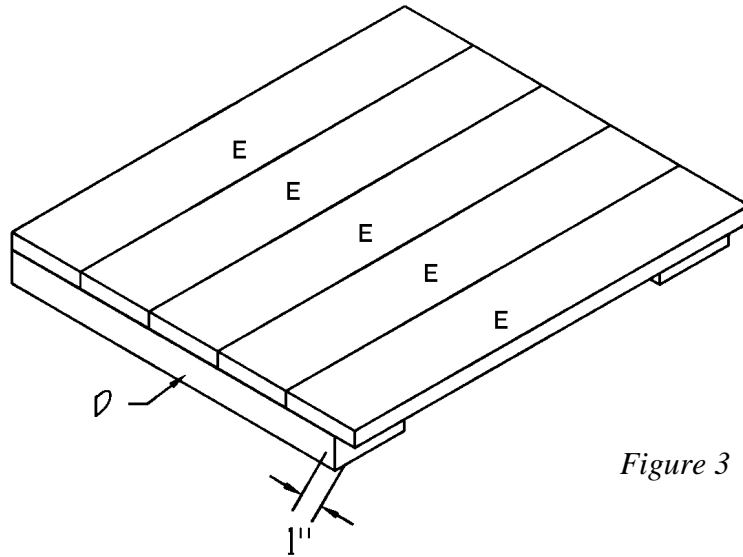

Figure 3
1. Cut two Back Supports (D) from 2 x 4 pine, each measuring 14-1/2 inches.
2. Cut five Backs (E) from 1 x 4 pine, each measuring 20 inches.
3. Position the two Back Supports (D) on a flat surface, parallel to each other and 13 inches apart. Position one Back (E) over the two Back Supports (D), as shown in *Figure 3*. The first Back (E) should overhang the ends of the two Back Supports (D) by 1 inch. Apply glue